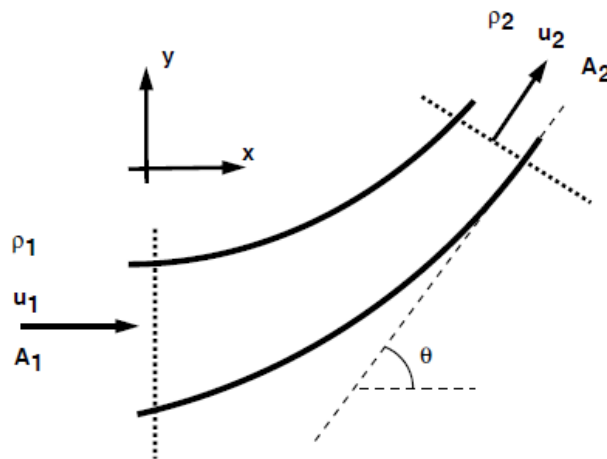

Figure 5 / Rajah 5
2. [a] A 45° reducing bend (Figure 5), 0.6 m diameter upstream, 0.3 m diameter downstream, has water flowing through it at the rate of $0.45 \text{ m}^3/\text{s}$ under a pressure of 1.45 bar. Neglecting any head loss for friction; calculate the force exerted by the water on the bend, and its direction of application.